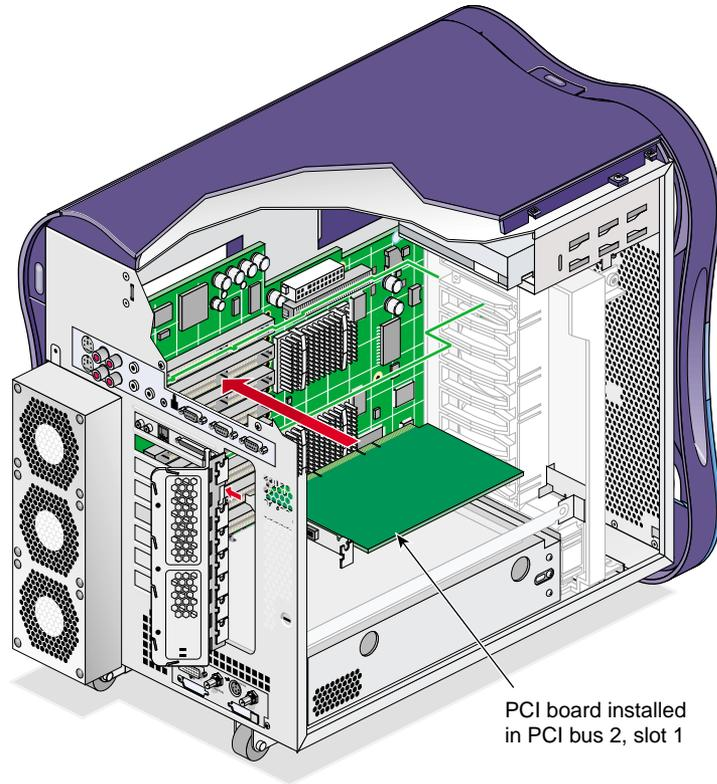

Figure 3-29 Installing the PCI Board
3. Align the PCI board with the PCI slot. Then lower it into the enclosure with the connector end angled slightly downward (see Figure 3-29).
4. Align the connector end of the PCI board in the opening in the enclosure. Ensure that the screw hole in the PCI connector plate aligns with the tab on the PCI gate. Then press down firmly on the PCI board until it is fully seated in the PCI slot (see Figure 3-29).